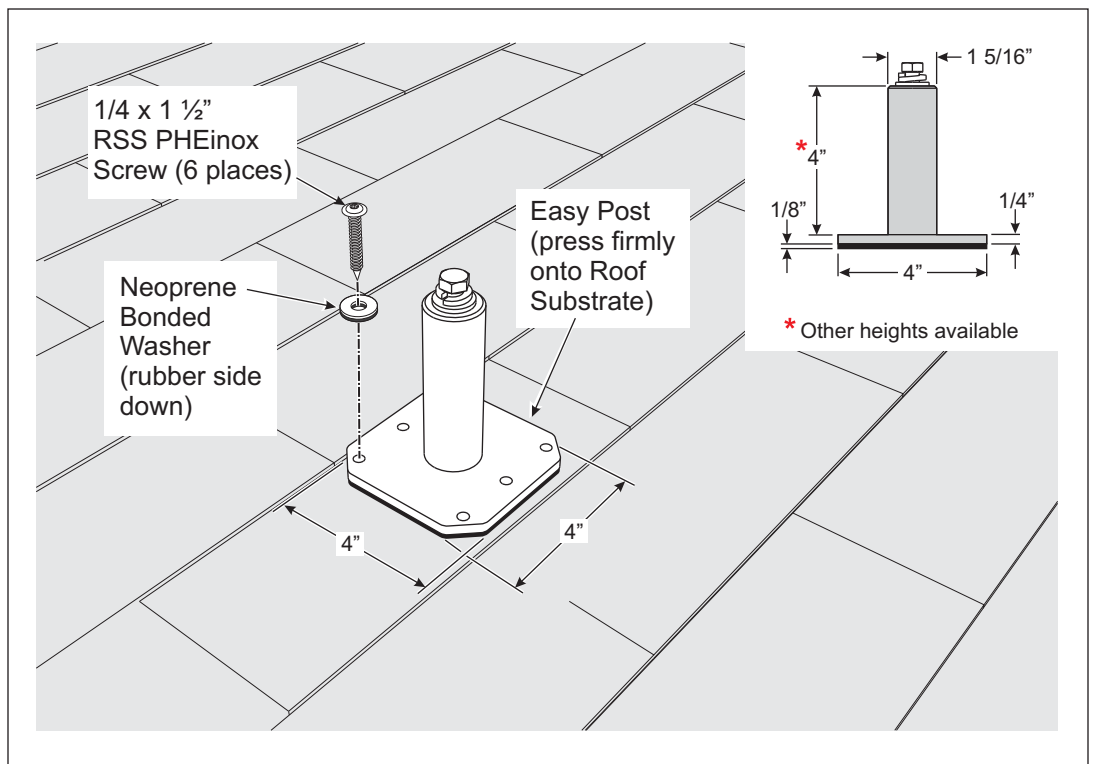

Figure 2: Securing the Easy Post to Roof
- Align the Easy Post to the substrate and press firmly, sticking it to the substrate. (see Fig. 2)
- Install the neoprene bonded washers onto the RSS PHEinox screws with the rubber side down. (see Fig. 2)